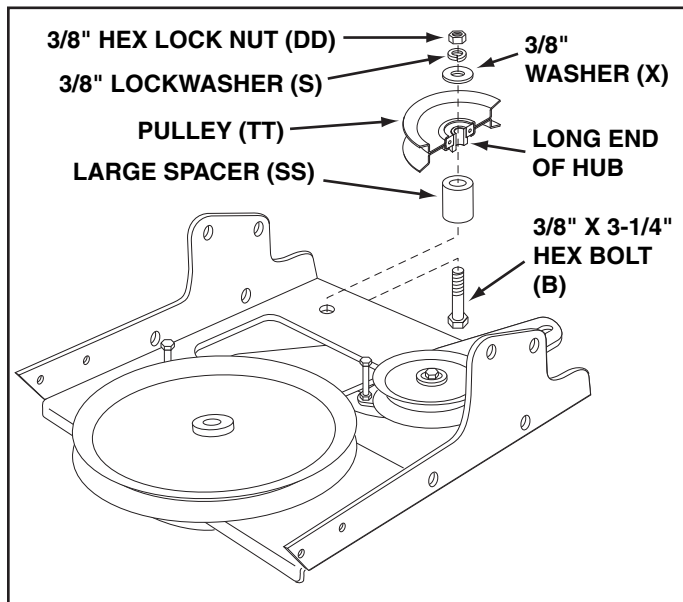

FIGURE 7
STEP 7: (SEE FIGURE 7)
- Attach the pulley (long end of hub facing down) and the large spacer (SS) to the hole shown in the clutch/idler assembly. Use a 3/8" x 3-1/4" hex bolt (B), a 3/8" washer (X), a 3/8" lock washer (S) and a 3/8" hex lock nut (DD).